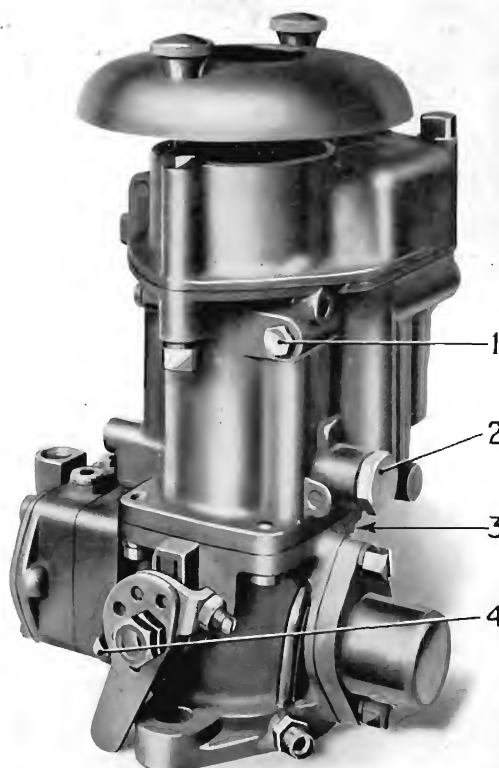

Fig. 11.
The slow running jet (1), Fig. 11, is situated in the carburettor barrel above the control lever and is accessible from outside. Adjustment for idling is effected by turning the throttle stop screw (4) on the control lever and the air bleed screw behind the governor housing at (3) until the desired speed is obtained. A size larger or smaller slow running jet can be tried if the required adjustment cannot be obtained with the adjusting screws.